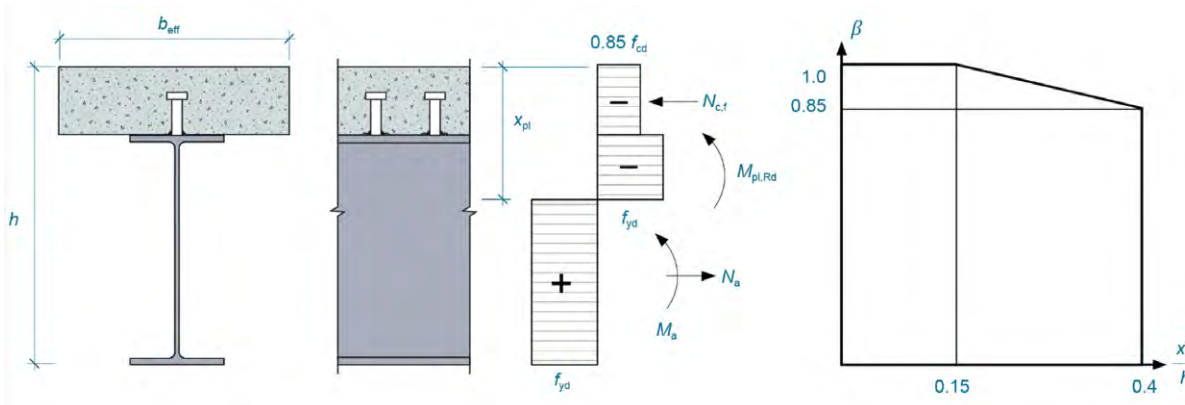

Figure 3: Reduction factor beta, applied to $M_{pl,Rd}$ according to EN 1994-1-1
Eurocode 4 (EN 1994-1-1 clause 6.2.1.2 (2))¹ provides a graph showing the beta factor that is to be used for composite beams using S420 or S460 steel. This graph is reproduced here as Figure 3.